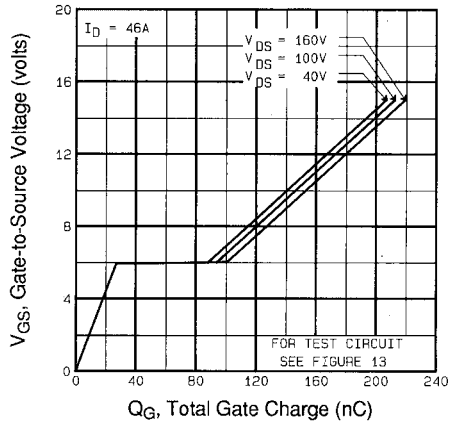

Fig 6. Typical Gate Charge Vs. Gate-to-Source Voltage
| Q_{gd} | Gate-to-Drain ("Miller") Charge | — | — | 110 | | $V_{GS}=10V$ See Fig. 6 and 13 ④ |